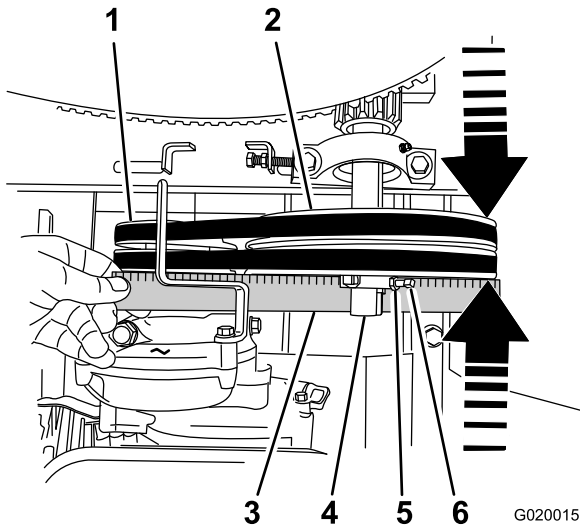

Figure 61
- B. Loosen the locknuts and setscrews that secure the idler pulley to the idler shaft (Figure 61).
- C. Using a soft-face mallet, tap the idler pulley forward or backward along the idler shaft until the engine pulley and the idler pulley are aligned to the straight edge (Figure 61).
- D. Tighten the setscrews and locknuts that secure the idler pulley to the idler shaft (Figure 61).
2. Place a straightedge across the face of the engine pulley and the idler pulley (Figure 61).